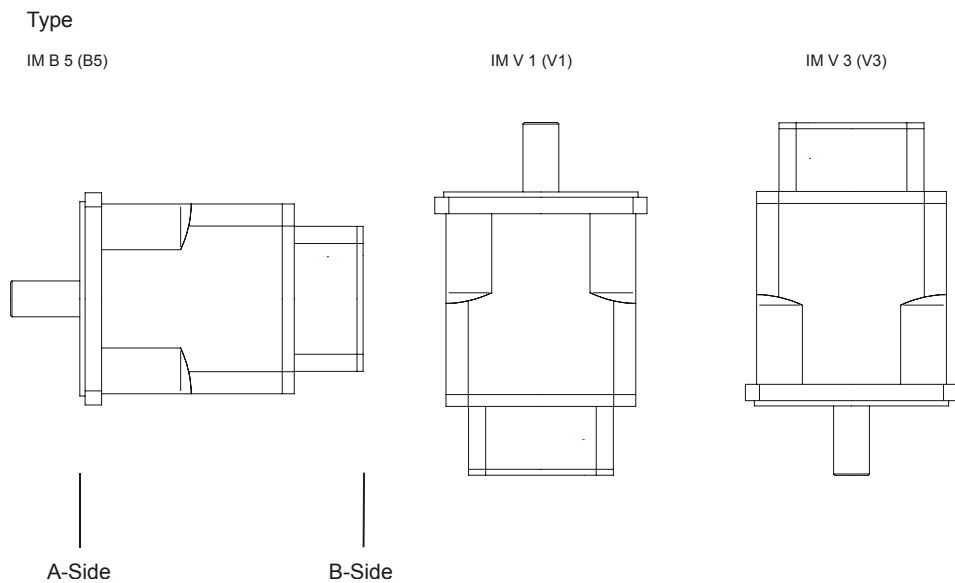

Fig. 2: Mounting Positions of JL4 Motors
- Protect the motors against liquids soaking into the bearing in case the shaft end is installed upwards (design V1); refer to Fig. 2.
Installation	<ul style="list-style-type: none"> • Horizontal position (B5) to Fig. 2 on page 22 • If the module is operated at an altitude higher than 1,000 m above sea level, derating will be required. • A clearance of at least 10 cm above and below the module must be maintained to provide proper air circulation.